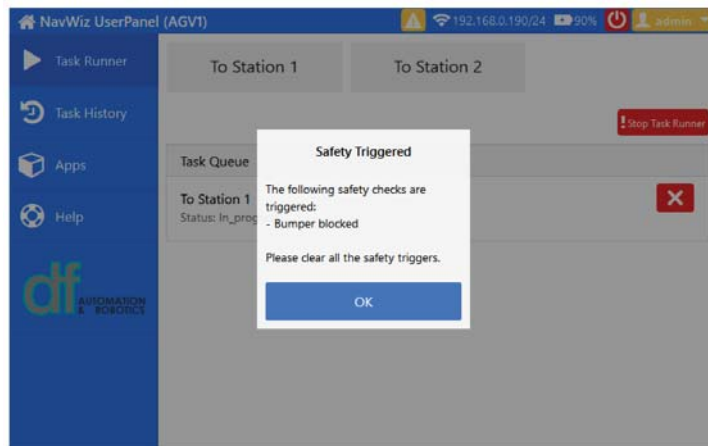

Fig. 3.26: Bumper Blocked Safety Triggerd Message
- i. Upon the activation of either Front or Rear **Bumper** , AGV will stop its current operation immediately and a **Safety Triggered** with **Bumper blocked** message will be shown on the **LCD Touchscreen** as shown in Fig. 3.26.